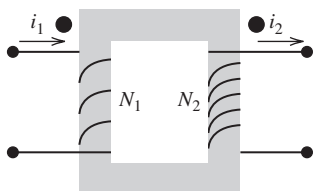

FIGURE P12.26 Mutual induction.
12.26 (H) The mutual inductance between the coils shown in Figure P12.26 is denoted by M . Prove that $M = N_1 N_2 / \mathfrak{R}$, where N_1 and N_2 are the number of turns of the primary and secondary coils, respectively, and $\mathfrak{R}$ is the magnetic reluctance of the core.